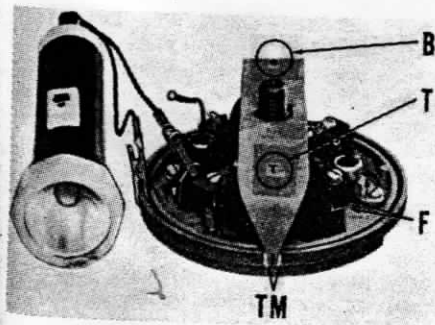

Fig. OM7-12—Timing fixture installed and aligned with armature plate timing marks (TM) for adjusting points for upper cylinder.
Breaker point gap should be 0.020 and both sets of points should be synchronized so that they open exactly 180° apart. The manufacturer provides a timing fixture (OMC Part No. 376969) to be used in adjusting and synchronizing the magneto. The fixture is installed on crankshaft in place of flywheel as shown in Fig. OM7-12, and used in conjunction with a timing light or continuity meter.
To synchronize the points using the timing fixture and light, remove flywheel and install timing fixture, making sure it is properly fitted over flywheel key. Disconnect condenser and magneto coil leads from both sets of breaker points. Attach test light or meter to the opening set of breaker points and to a suitable ground. Bulb should light when points are closed, and go out when points are opened. Turn crankshaft until fixture pointer rests midway between the two embossed armature plate timing marks shown in Fig. OM7-12. Adjust the gap until points just open when timing fixture pointer is between the two marks (TM) on armature
Side of breaker point cam marked "TOP" should face up. Face of coil shoes should be flush with machined surfaces on armature plate. One of the three points is shown at (F—Fig. OM7-12). The drive key for flywheel and cam should be installed with marked end down and edge parallel with center of crankshaft.